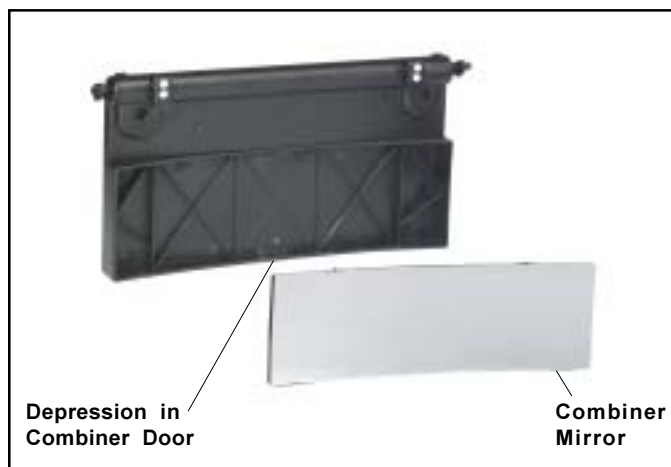

FIGURE 28 - REPLACEMENT COMBINER
1. Locate the depression in the center of the combiner door. Refer to Figure 28.